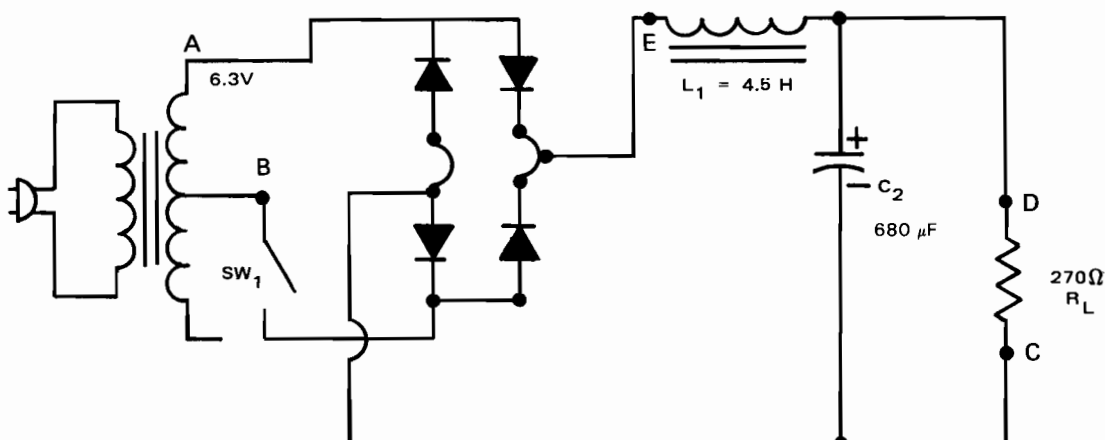

Fig. 15-4-3
8. Turn off circuit switch and connect filter circuit to bridge rectifier output as indicated in Fig. 15-4-3.
point D-C as in Fig. 15-4-3. C_1 should remain connected to points E-C. With oscilloscope, observe waveforms at points E-C and D-C to see influence of filter circuit. With VOM, measure and record rms and dc voltage at points D-C. The rms is _____. The dc is _____ volts. Percent of ripple is _____.